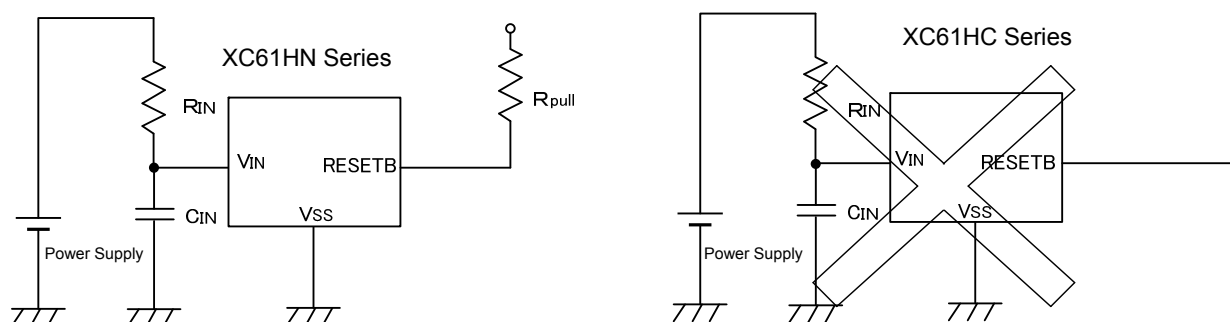

Figure 1 Use of input resistor  $R_{IN}$
2. When a resistor is connected between the  $V_{IN}$  pin and the power supply with CMOS output configurations, irregular oscillation may occur as a result of voltage drops at  $R_{IN}$  if load current ( $I_{OUT}$ ) exists. It is therefore recommend that no resistor be added. (refer to Figure 1 below)
4. If a resistor ( $R_{IN}$ ) must be used, then please use with as small a level of input impedance as possible in order to control the occurrences of oscillation as described above. Further, please ensure that  $R_{IN}$  is less than 10k $\Omega$  and that  $C_{IN}$  is more than 0.1  $\mu$ F, please test with the actual device. However, N-ch open drain output only. (Figure 1).